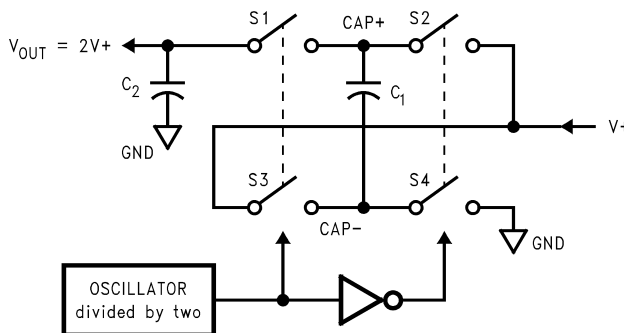

Figure 9-2. Voltage Doubling Principle
The LM2767 contains four large CMOS switches which are switched in a sequence to double the input supply voltage. Energy transfer and storage are provided by external capacitors. Figure 9-2 illustrates the voltage conversion scheme. When S_2 and S_4 are closed, C_1 charges to the supply voltage V_+ . During this time interval, switches S_1 and S_3 are open. In the next time interval, S_2 and S_4 are open; at the same time, S_1 and S_3 are closed, the sum of the input voltage V_+ and the voltage across C_1 gives the $2V_+$ output voltage when there is no load. The output voltage drop when a load is added is determined by the parasitic resistance ($R_{ds(on)}$ of the MOSFET switches and the ESR of the capacitors) and the charge transfer loss between capacitors. Details are discussed in Section 9.
- R_{SW} is the sum of the ON resistance of the internal MOSFET switches shown in Figure 9-2.